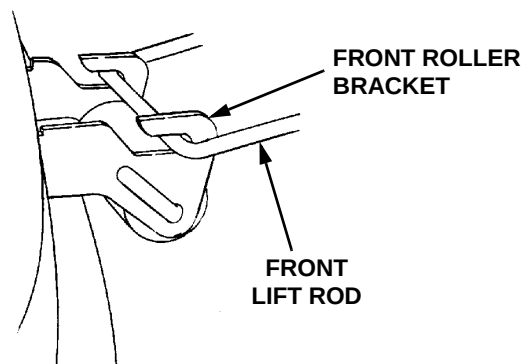

Figure 33
8. While holding the front lift rod up, slide the mower deck forward until the rod aligns with both front roller bracket slots. Lower the lift rod into the front roller bracket slots and slide the deck rearward to engage the lift rod fully forward in the slots of the deck front roller bracket (Refer to Figure 33).